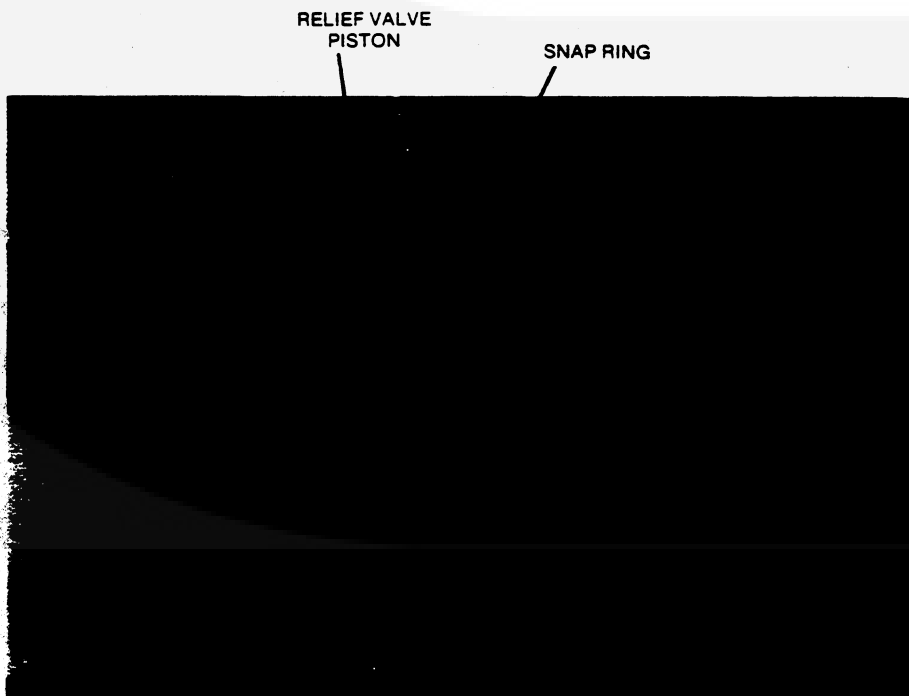

FIGURE 6. INSTALLING PRESSURE RELIEF VALVE
3. Push piston and spring into valve body and hold in place with a screwdriver (Figure 6).